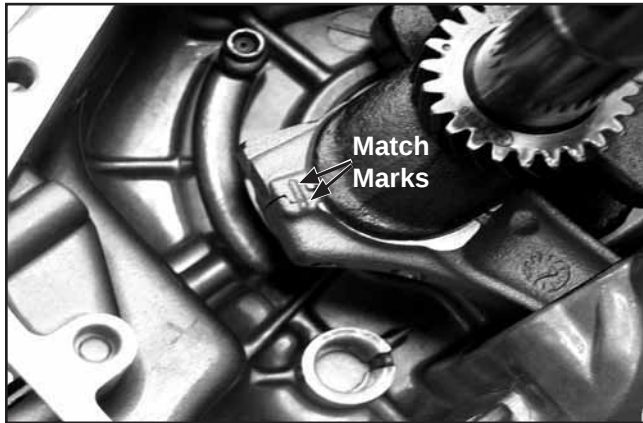

Figure 10-6. Aligning Match Marks.
6. Rotate the crankshaft to mate with the connecting rod. Align the rod cap and connecting rod to match the marks. Torque the screws to $12.5 \text{ N}\cdot\text{m}$ (110 in. lb.). See Figure 10-6.